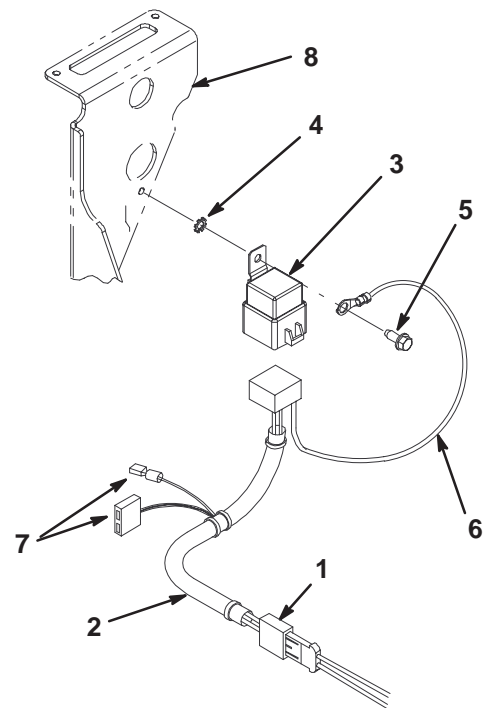

Figure 6
- Secure the relay and ground wire to the shifter bracket on the main frame with the star washer and thread forming screw as shown in Figure 6.
- Connect the backlap harness to the relay, switch connector, and main harness (Fig. 6).